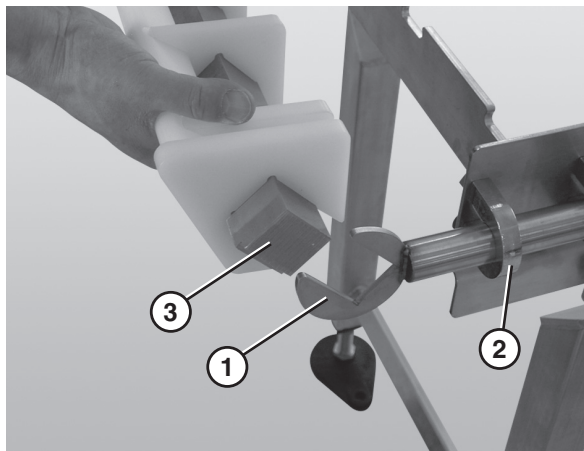

Figure 22
1. Slide the nose bar idler shaft hands (Figure 22, item 1) into the take up blocks (Figure 22, item 2).
2. Attach the nose bar transfer post (Figure 22, item 3) to the nose bar idler shaft hands.